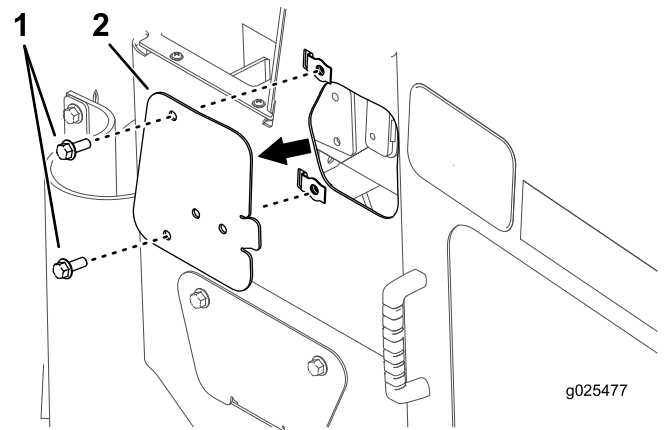

Figure 9
4. Remove the panel from the machine as shown in Figure 9.